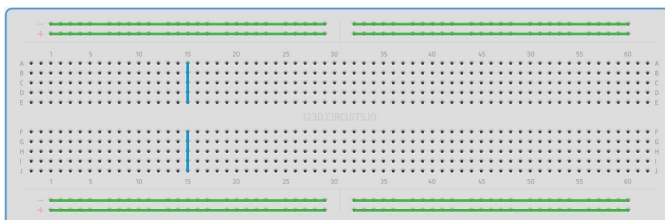

Fig. 2.1: Bread board connections
1. Plug the display to the breadboard in Fig. 2.1 and make the connections in Table 2.2. Henceforth, all 5V and GND connections will be made from the breadboard.